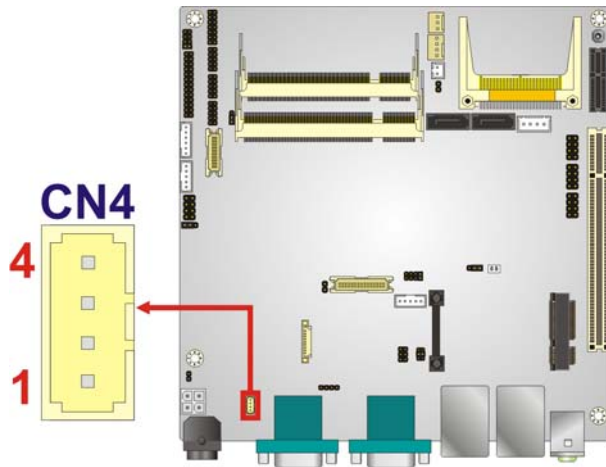

Figure 3-23: SMBus Connector Locations
- CN Location:** See **Figure 3-23**